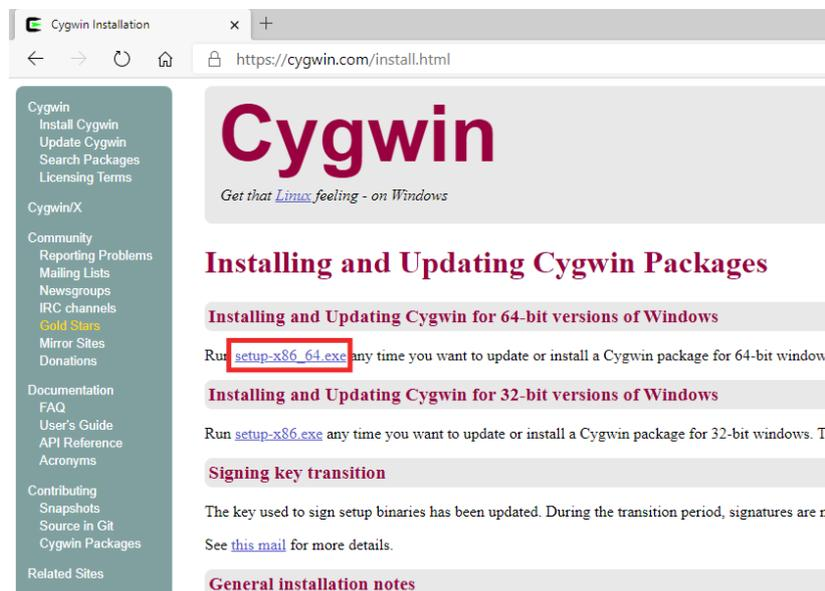

Figure 101. Cygwin installation webpage
1. Navigate to the installation webpage (<https://cygwin.com/install.html>) and download the installation file, called `setup-x86_64.exe` (Figure 101).